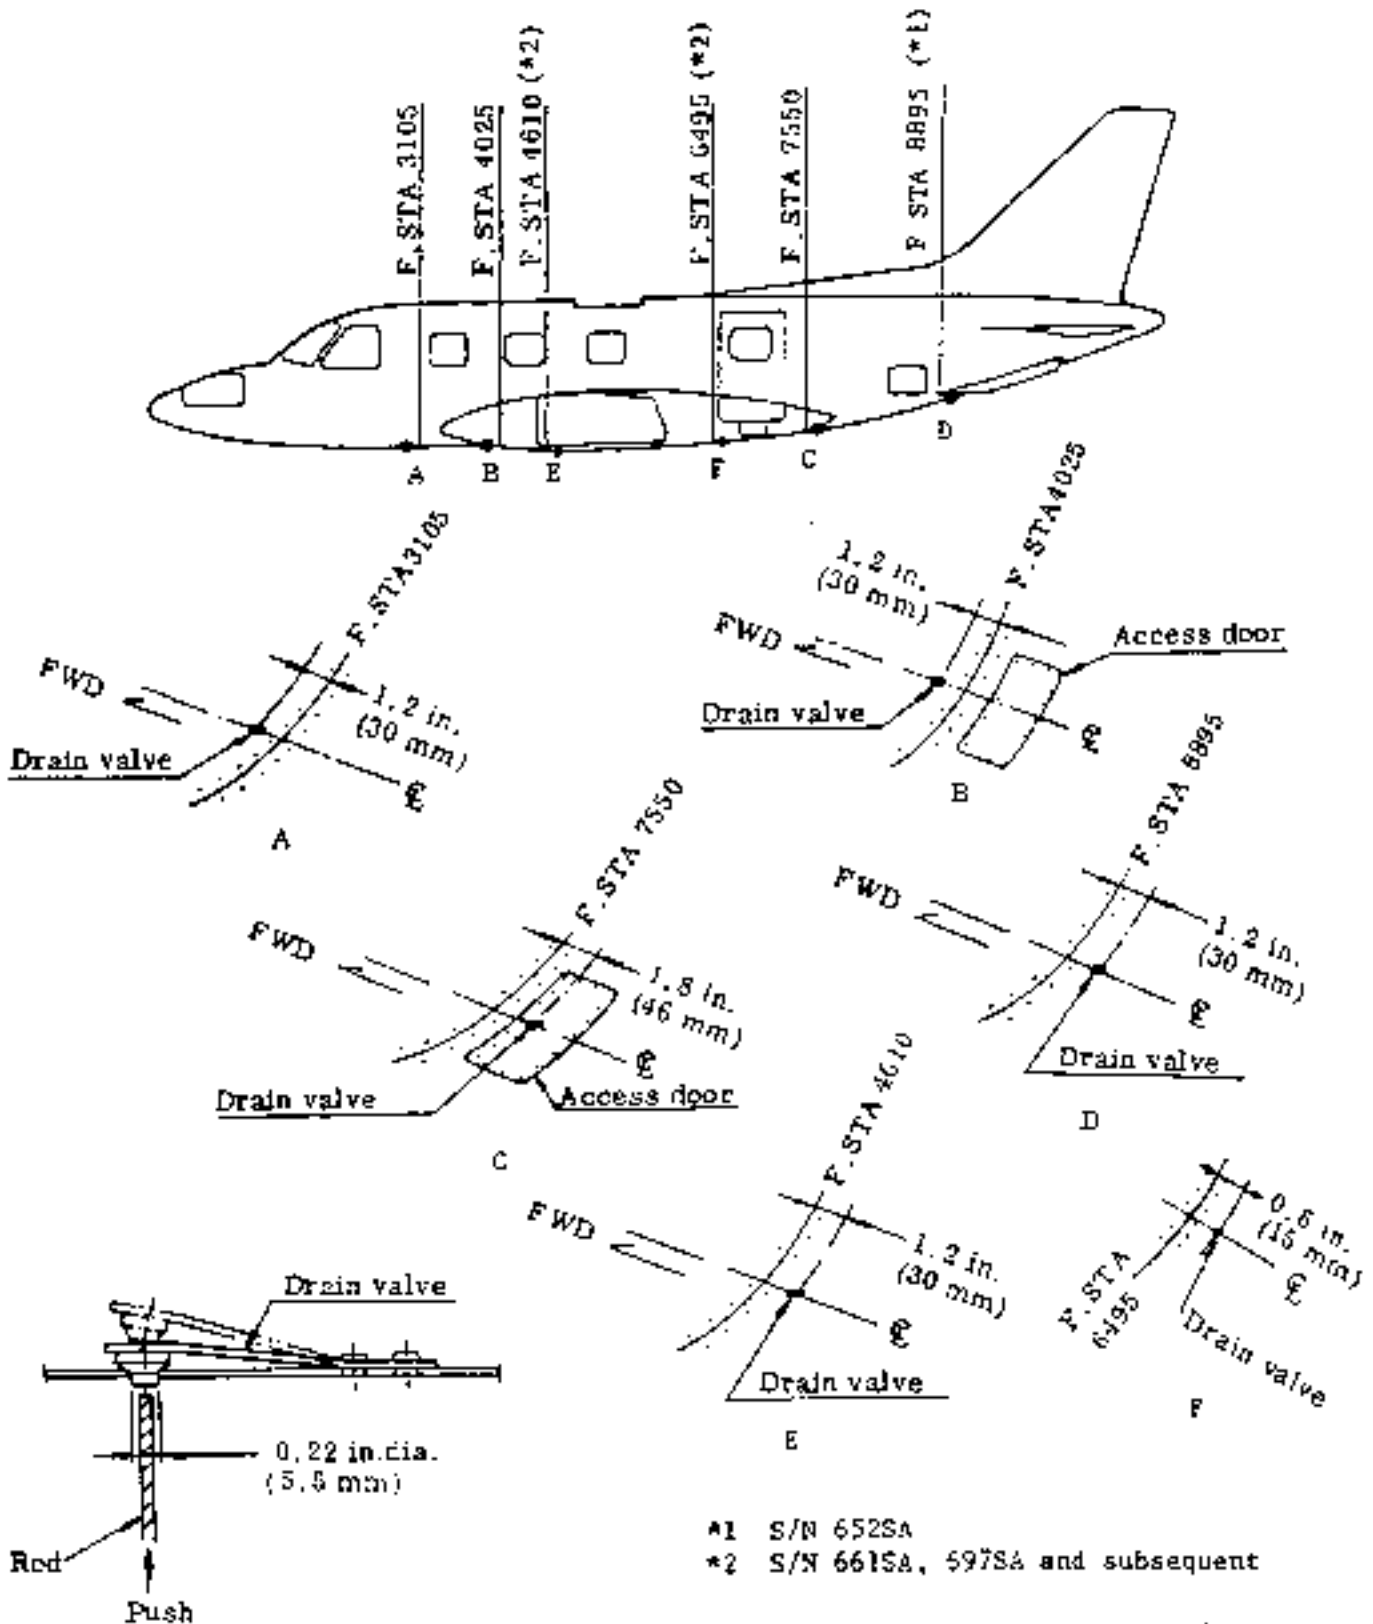

Fig 2-9 Drain valve
2.3 FUSELAGE DRAIN (See Fig 2-9)